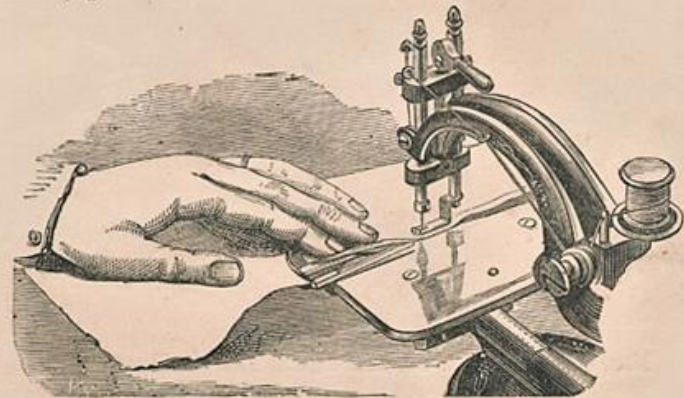

FIG. 14.—HEMMING, WITH THE MEDIUM HEMMER.
- (a) Attach the medium hemmer to the cloth-plate (fig. 14.)
(d) With the fingers of the left hand pressing gently on the left of the hemmer (fig. 14), proceed as with the narrow hemmer (18, *h, i*.)